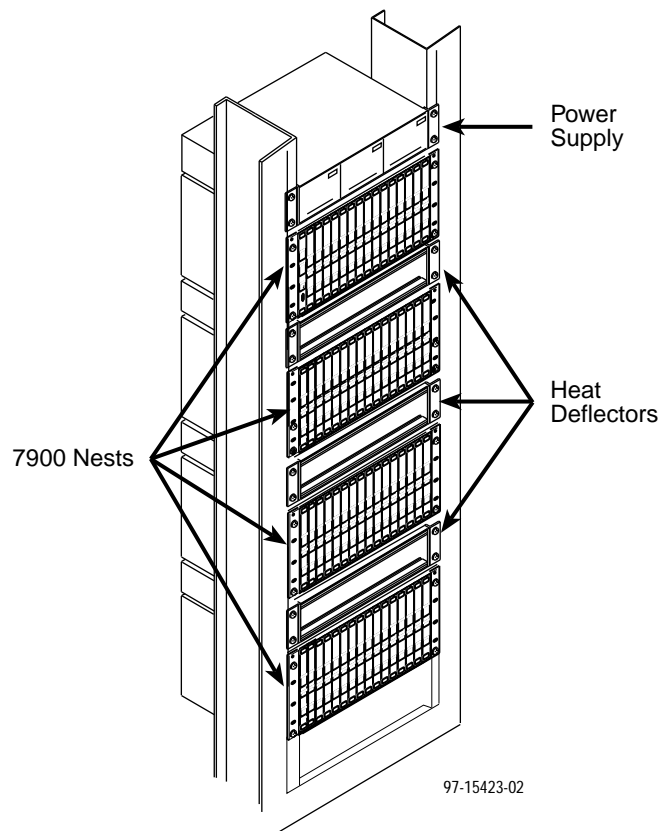

Figure 3-1. Standard Equipment Rack with Fully Populated Hotwire Model 7900 Nests, Heat Deflectors, and Power Supplies Installed
The Hotwire Model 7900 Nest fits into a standard 19-inch wide equipment rack. See Figure 3-1.
- Install the heat deflector module directly below the top nest. See *Installing the Heat Deflector Module* procedure on page 3-4. Refer to *Figure 3-1* for the location of the module.
A heat deflector module is installed below the nest to prevent heat generated from lower level nests and power supplies from rising to those above. Refer to Figure 3-1 for the location of the heat deflector module in the equipment rack.
This procedure assumes a fully populated rack as shown in Figure 3-1 including four -48 Vdc power supplies and four expansion nests. If your configuration provides sufficient airflow between nests, you may not need to install heat deflector modules.
1. Refer to **Figure 3-1** for the recommended location of the –48 Vdc power supply within the rack.